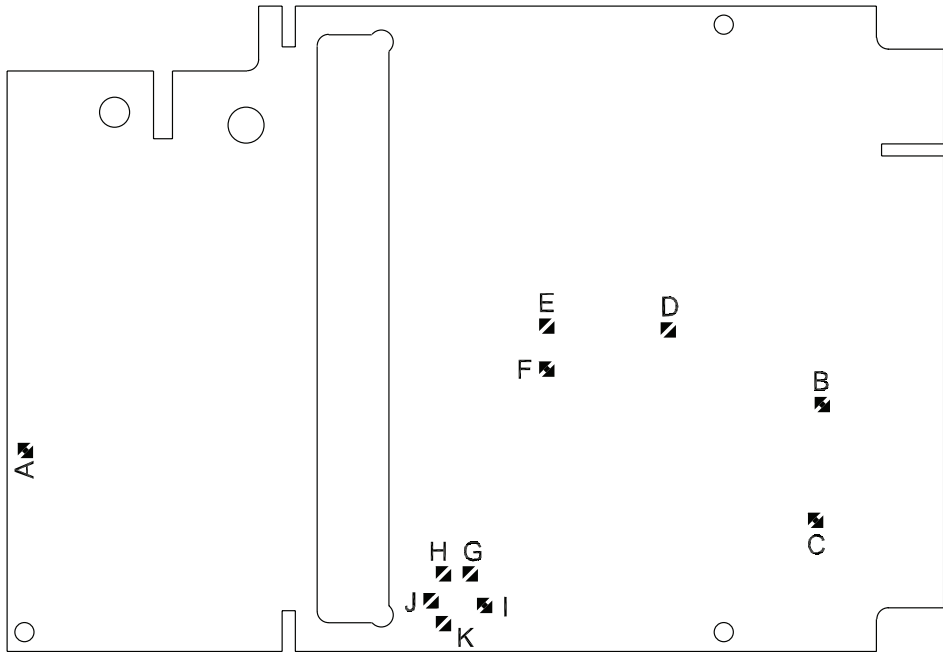

Figure 5-3 Solder Switch Locations
* Refer to **Figure 5-3** on the following page for solder switch locations.